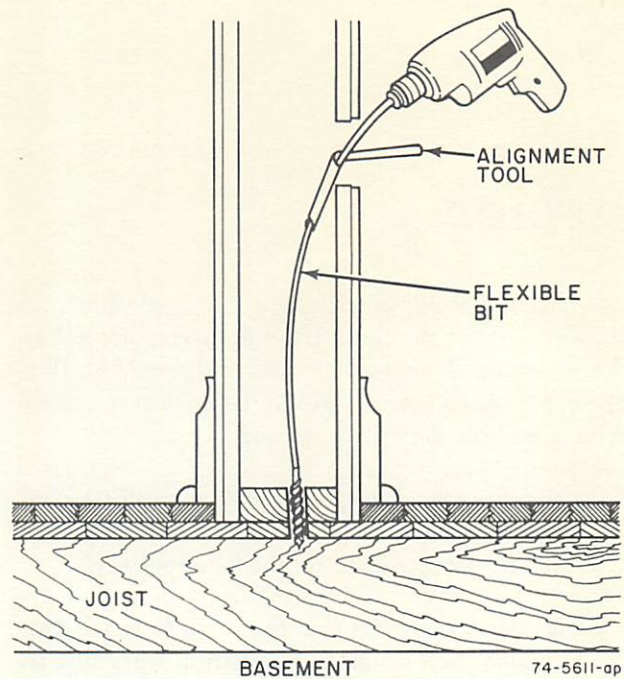

Fig. 42—Gaining Access to Wall Using Flexible Bit.
Use the following procedure to run signal wires from a device, such as the control, through an interior wall to the basement. When possible, use the flexible bit (Fig. 38 or Fig. 42) since it is usually faster than separately drilling the hole and fishing the wire.
2. Direct the flexible bit straight down from the mounting hole in the wall and drill through the sole plate and floor boards (Fig. 42).